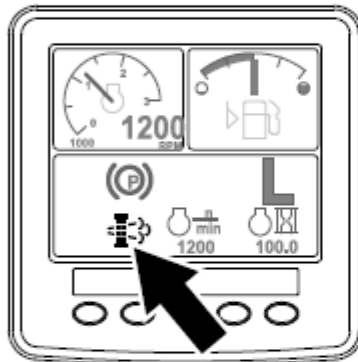

Figure 1
- The parked-regeneration requested icon displays in the InfoCenter (Figure 1).